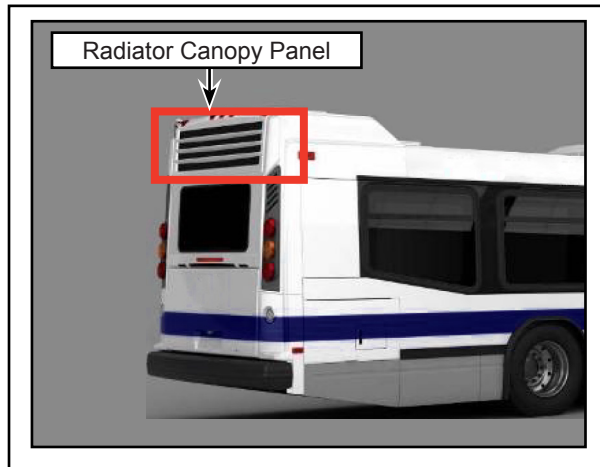

Figure 3 - Typical View of Radiator Canopy Panel
1.4. Locate the radiator canopy panel at the rear of the vehicle (see Figure 3).